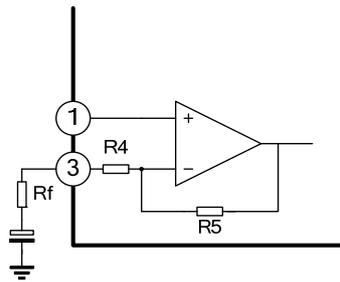

Figure 2
2. Adjustment of the voltage gain (Figure 2)
The voltage gain is fixed at $G_V=40\text{dB}$ by the resistors (R4 and R5) in IC. Its reduction is possible through adding R_F as shown in Figure 2. In this case, the voltage gain is obtained by the following equation: $G_V=20\log(R_5+R_4+R_F)/(R_4+R_5)$. It is recommended to use this IC with the voltage gain of $G_V=28\text{dB}$ or over.